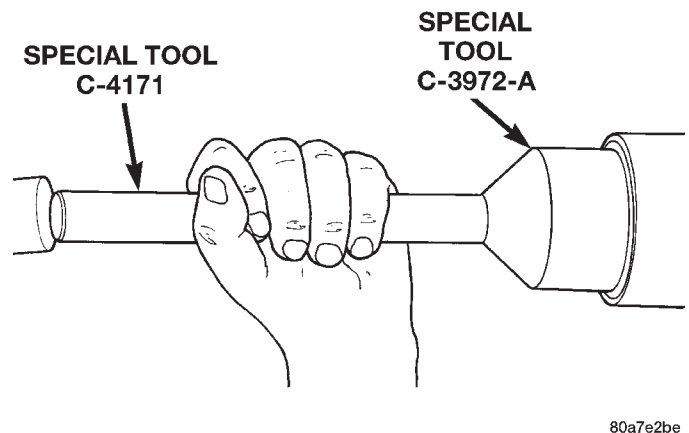

Fig. 35 Pinion Seal Installation
(5) Apply a light coating of gear lubricant on the lip of pinion seal. Install seal with Installer C-3972-A and Handle C-4171 (Fig. 35).